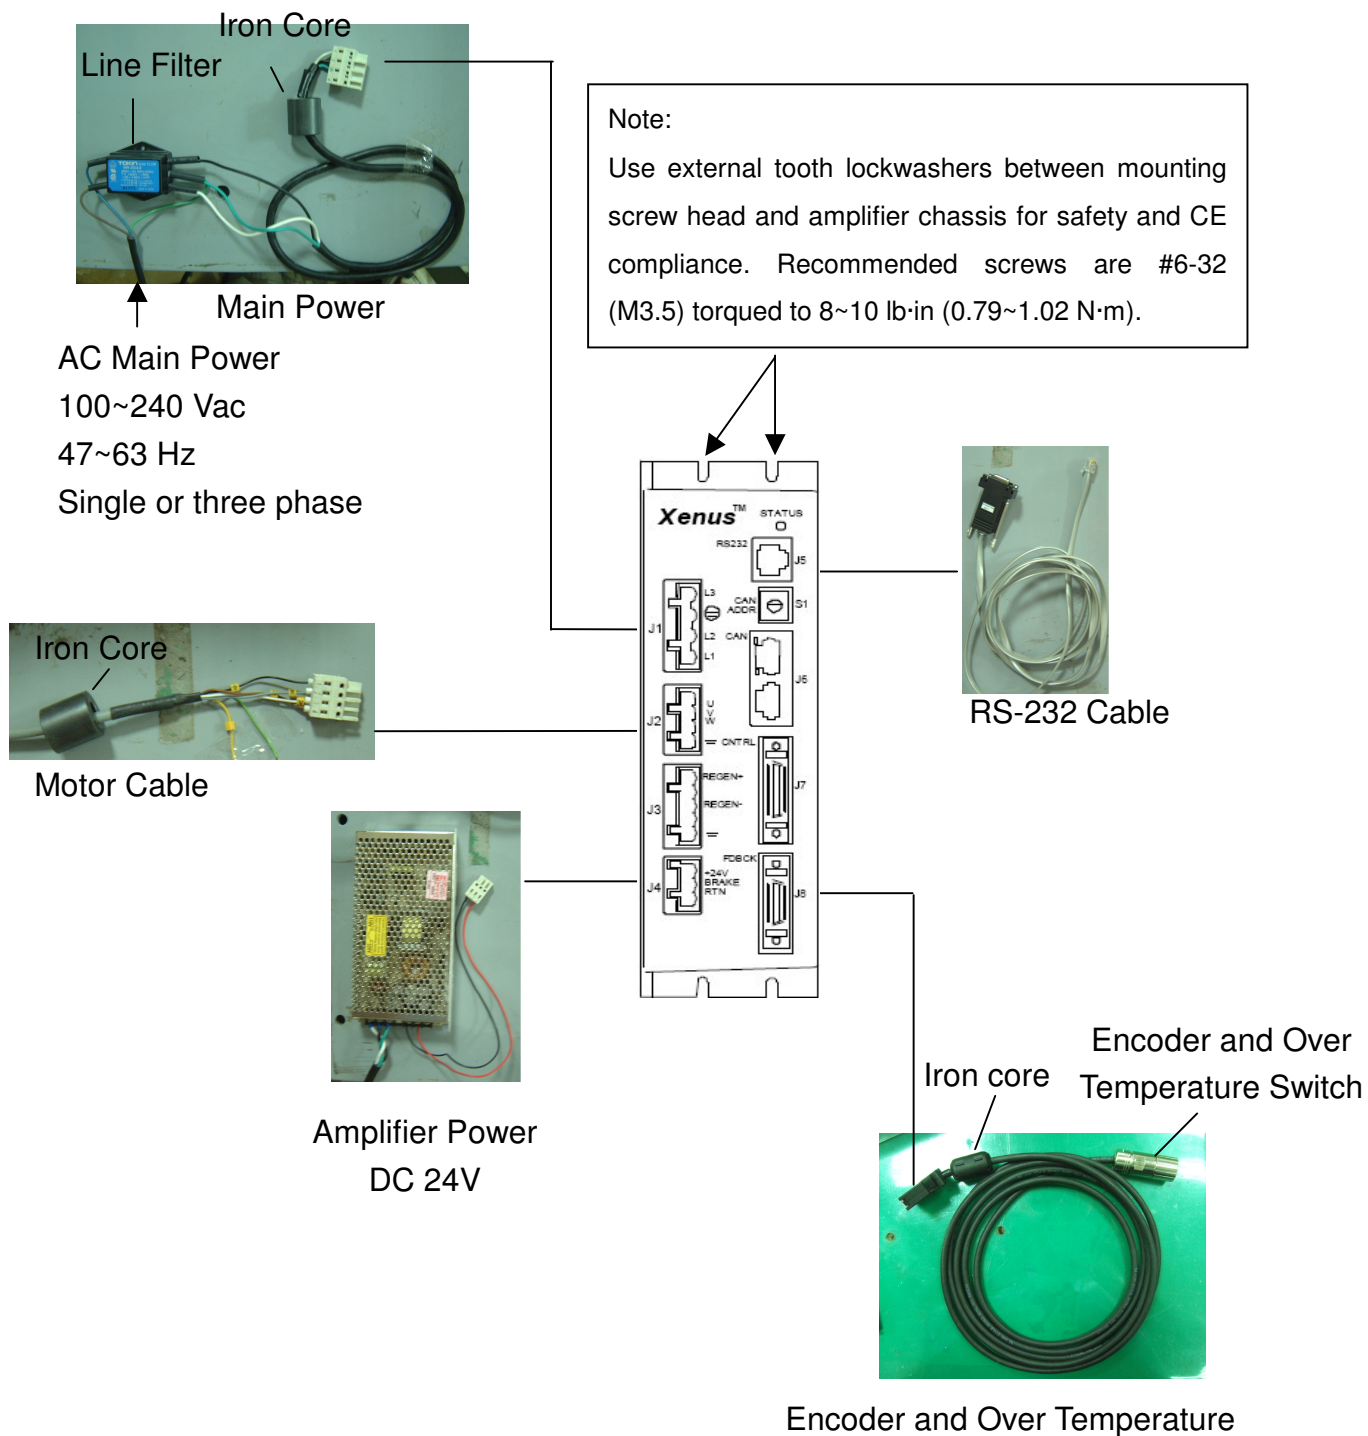

Fig. 2 Wiring between driver and other components
The wiring of the driver and other components is shown as Fig. 2 and explain as follows,
- d. Refer to Fig. 2 for connecting driver amplifier's AC power cord (J1), motor power cord (J2), 24V DC (J4) driver power, encoder cable (J8), but do not power up at this moment.
- f. Confirm motor frame is installed securely, turn on 24V DC power, connection is shown in Fig. 2 °